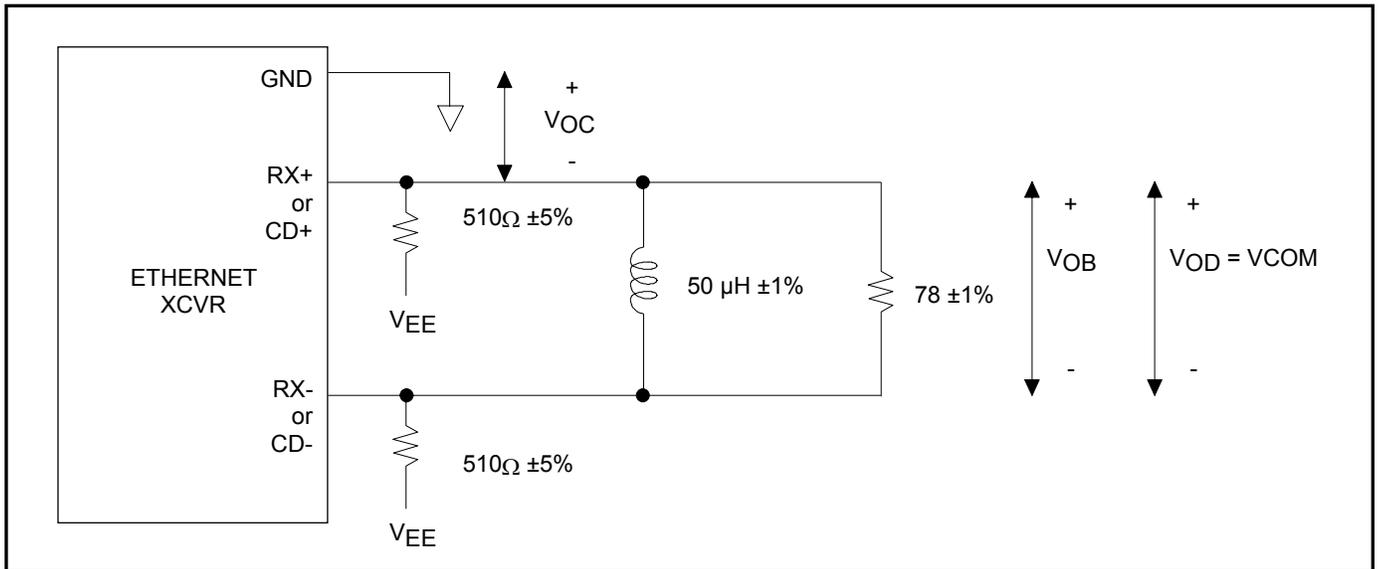

FIGURE 2: Test Load for CD± or RX±
7. Test load as shown in Figure 2.